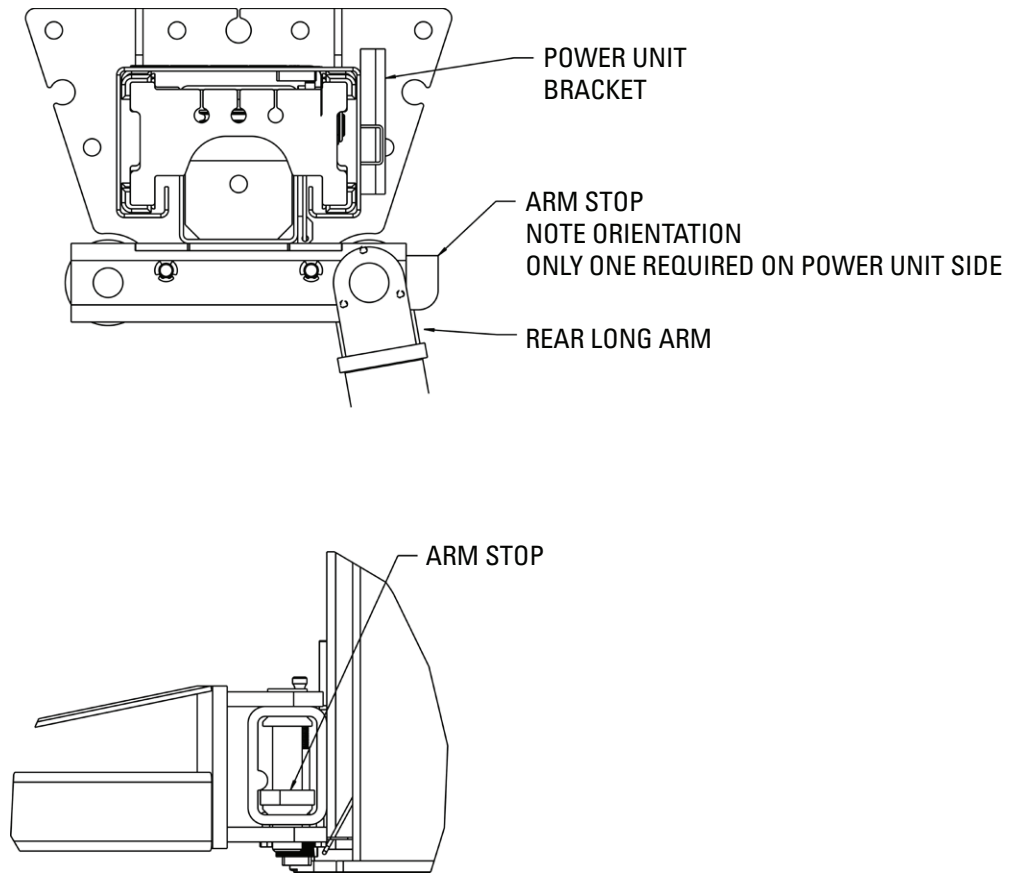

Figure 21
- * Install the swing arms and swing arm pins. If the arms are of different lengths, the longer arms go to the rear or drive in side of the lift, and the short arms go to the front, Figure 21.
- * Install the swing arms and swing arm pins. If the arms are of different lengths, the longer arms go to the rear or drive in side of the lift and the short arms go to the front, Figure 21.